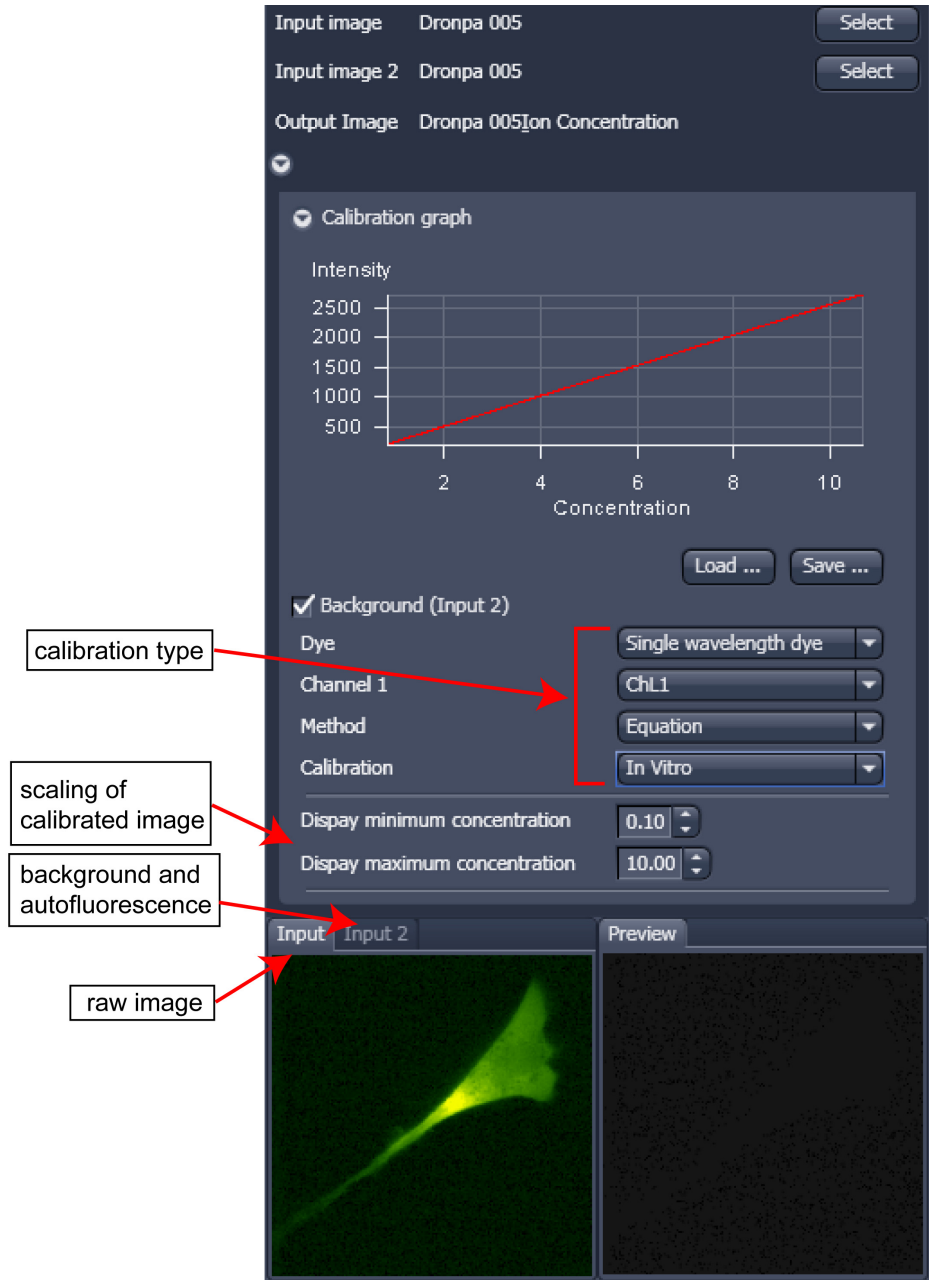

Fig. 134 Ion Concentration panel
- Subtract background/autofluorescence image from raw images to obtain better raw data to start with (Fig. 134).